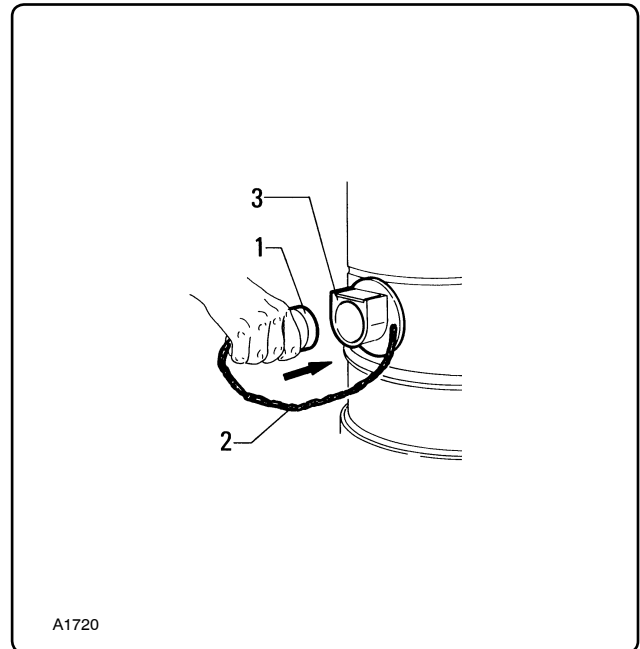

Fig. 6.7.2
- C. plug "1" to close mouth "3" fig. 6.7.2.